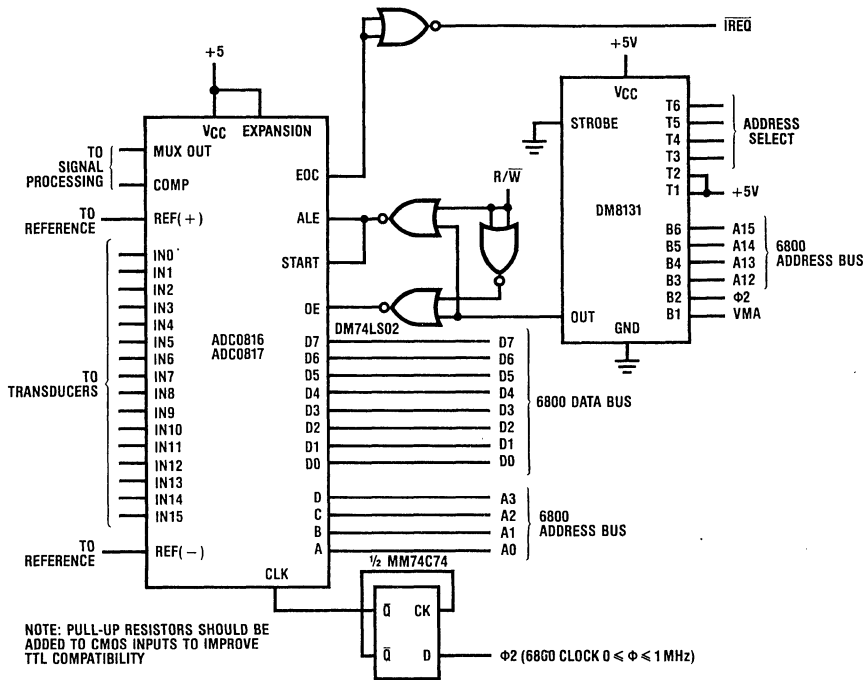

Figure 29. 6800 to ADC0816/ADC0817 Interface
*Figure 29* illustrates an interface which uses a DM8131 comparator to partially decode the A12, A13, A14, and A15 address lines with the  $\Phi_2$  clock and Valid Memory Address (VMA), to provide an address decode pulse for the two NOR gates which in turn generate the START/ALE Pulse and the output enable signal. This design will locate the A/D in one 4k byte block.